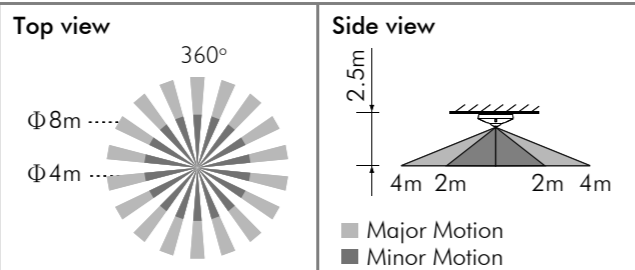

FIG.2
- OS-384i-DALI-230 / OS-384S can be installed at the height of 2-5m and the height of 2.5m is recommended to gain the optimal detection pattern. The detection range can reach up to the diameter of 8m and 360° detection angle (See FIG.2).